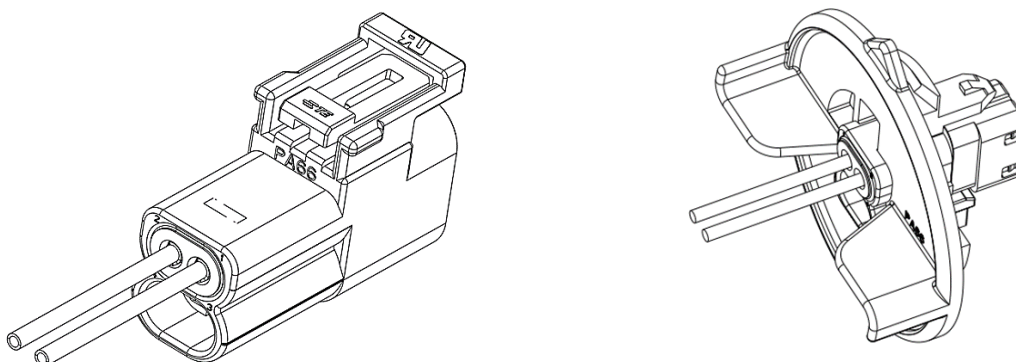

Figure 12
3. Insert the gang seal into the contact cavity at the back end (wire side) of the cap and plug housings as shown in Figure 12. Push seal into the contact cavity until it bottoms in the housing.